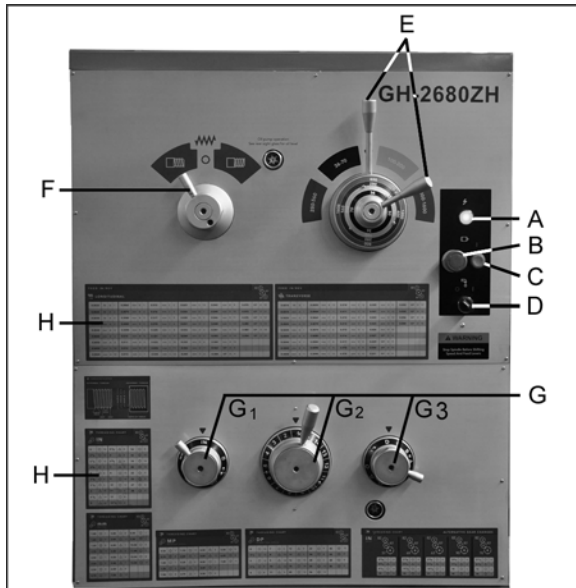

Figure 22 – Headstock Controls
- **Power Indicator Light (A, Figure 22).** Illuminates whenever lathe is receiving power.
- **Emergency Stop Button (B, Figure 22 and 23).** Shuts down all machine functions.
- **ON Button (C, Figure 22 and 23).** Activates motor.
- **Coolant On-Off Switch (D, Figure 22).** Activates coolant pump.
2. **Speed Selection Levers (E, Figure 22):** Located on front of headstock. Move levers left or right to desired spindle speed, according to accompanying chart on the dial.
3. **Feed Direction Lever (F, Figure 22):** Located on front of headstock. Moving the lever changes direction of feed. Center position is neutral.
4. **Thread Pitch and Feed Selector Levers (G, Figure 22):** Located on front of headstock, are used conjunctively to set up for threading or feeding, according to the accompanying chart (H).